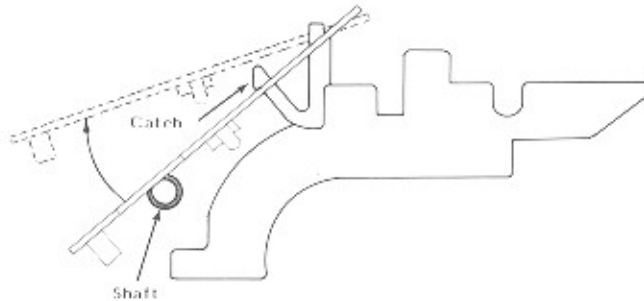

Figure 4-7.
1. To remove the assembly, push back on the catch (as shown in figure 4-7) to unhook the board, then remove the board.